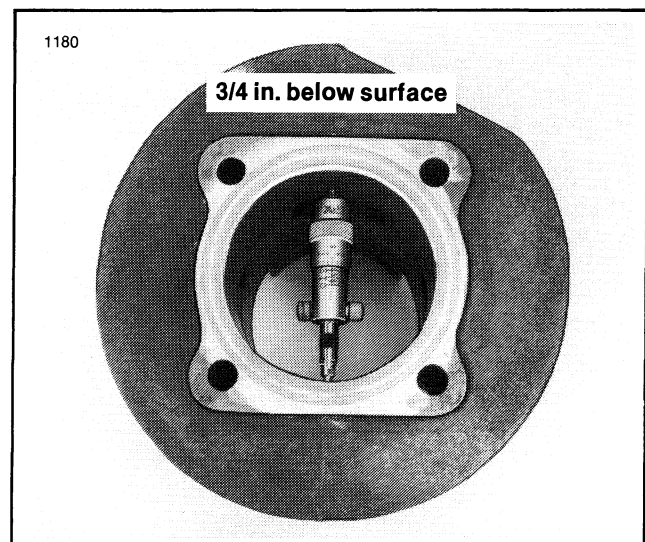

Figure 5-9. Measuring Cylinder Near Top
2. See Figure 5-9. Take cylinder bore measurement 3/4 in. from top of bore, measuring from front to rear, then left to right. Record the measurements.